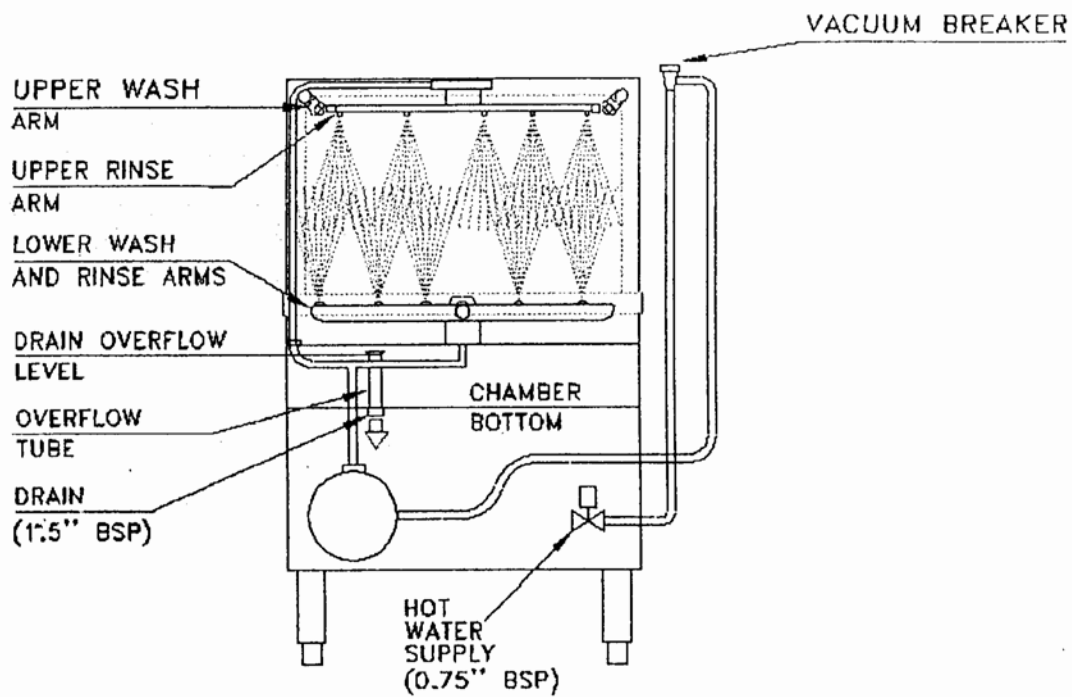

Figure 1: Internals of the UC25.
4. Connect the hot water supply hose to a $\frac{3}{4}$ " B.S.P. isolating valve (see Figure 1). The hot water input supply should be at 65°C and 200 to 400 kPa. A pressure reducing valve should be fitted for pressure above 400 kPa.
5. Connect the $1\frac{1}{2}$ " B.S.P. gravity drain via a $1\frac{1}{2}$ " trap to the drain outlet (see Figure 1). This can be plumbed to a nearby sink waste pipe at floor level. For machines fitted with a drain pump option, connect the supplied drain hose to a nearby sink trap spigot.
3. Vacuum breakers are not fitted to export machines, but are available as an optional extra. Please disregard the vacuum breaker shown in Figure 1.